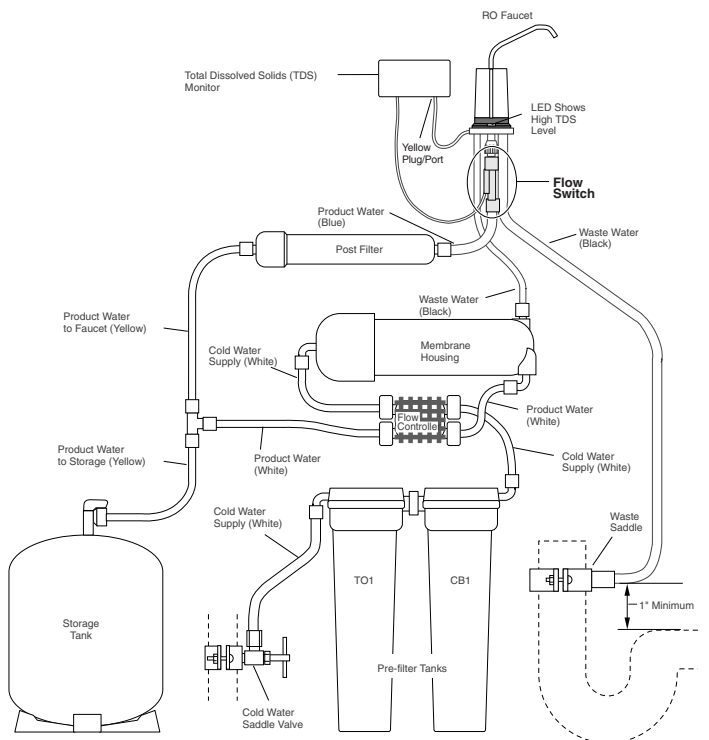

Figure 6: Tubing Layout w/TDS Monitor
- Thread the white flow switch onto the end of the faucet (see Figure 6).